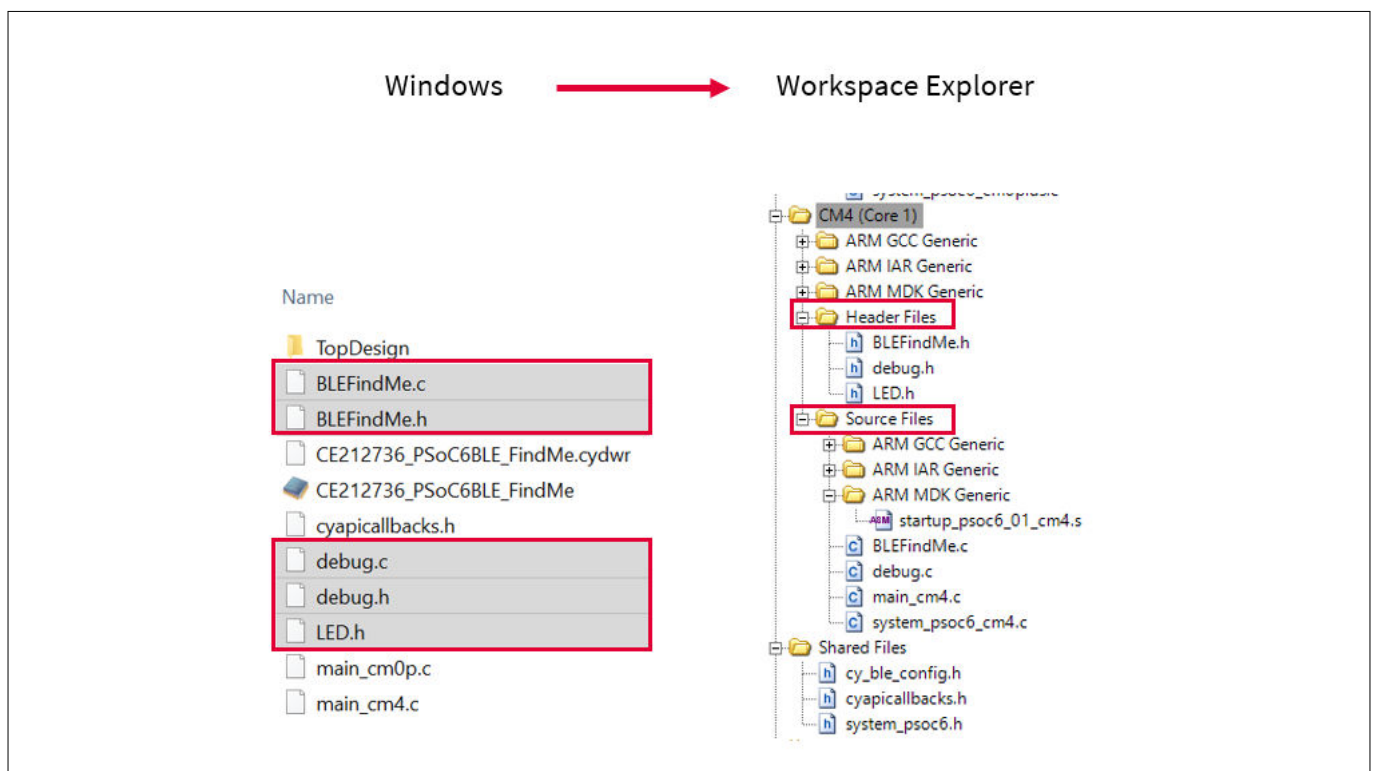

Figure 43 Add files to your project
- Add these files to your project. You can do this by dragging them from the *Windows* folder onto the *Workspace explorer*, and dropping them in the *CM4* folder location in the workspace. See Figure 43